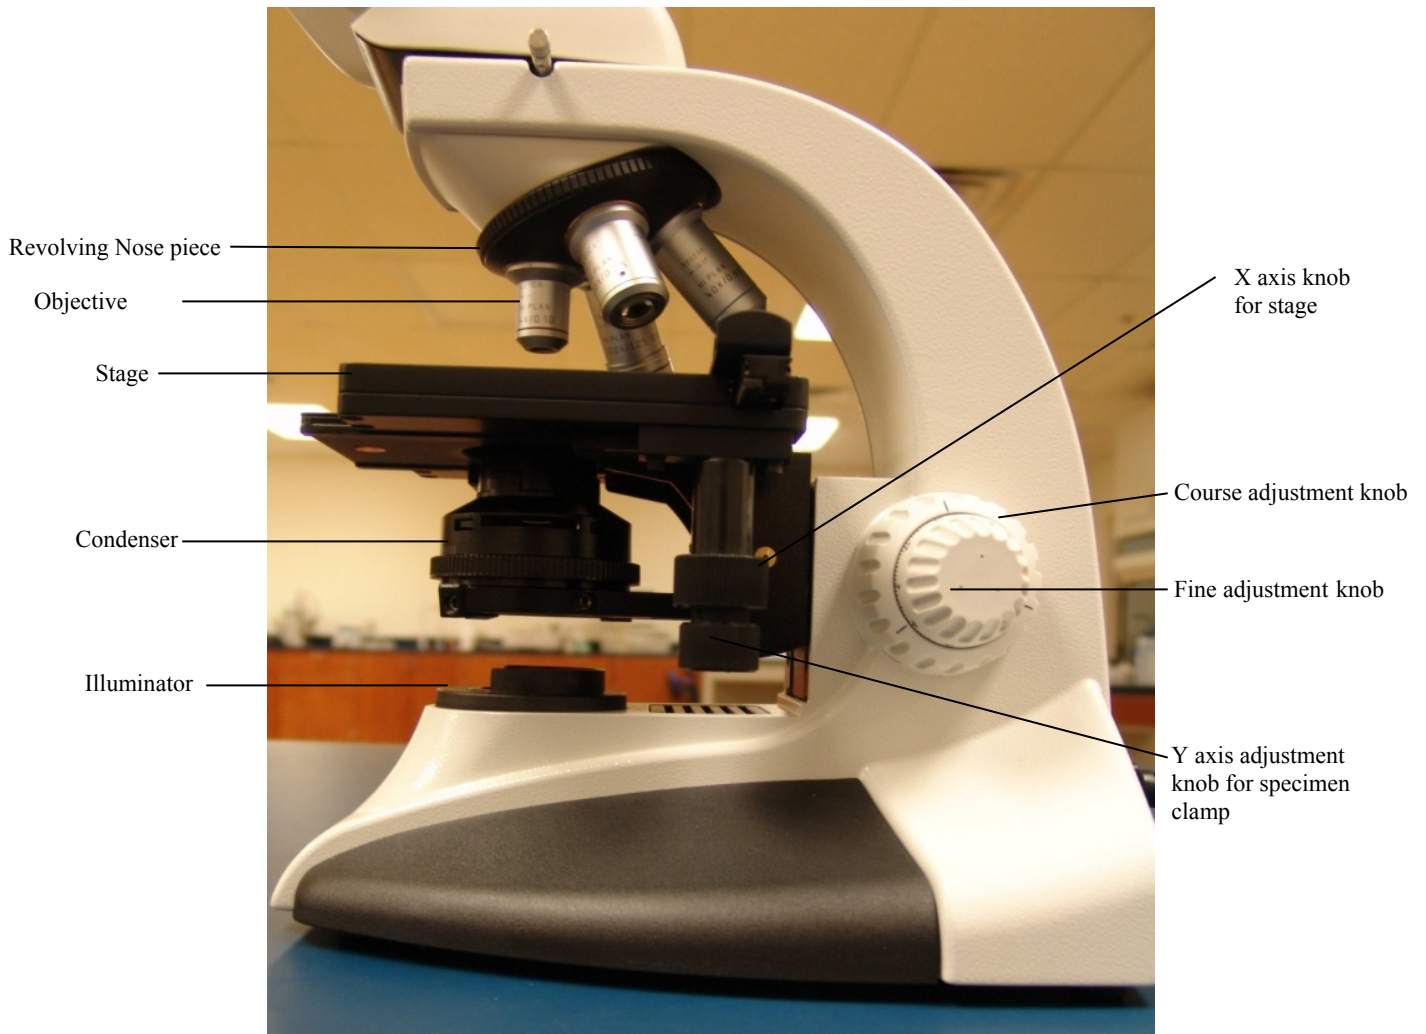

Figure 2: Leica DME microscope right side component view
- 8.1.8. Verify that the 4X objective is in the working position by rotating the revolving nose piece, until the 4X objective is in the working position. Refer to Figure 2.
- 8.1.9. Utilize the X axis stage knob by turning it clockwise to bring the stage forward to allow the specimen to be placed on the stage. Refer to Figure 2.
- 8.1.13. Utilize the X axis stage knob to align the specimen under the objective and over the light path of the condenser. Refer to Figure 2.
- 8.1.14. Utilize the Y axis adjustment knob for the specimen clamp to bring the specimen under the objective and over the light path of the condenser. Refer to Figure 2.
- 8.2.3. Looking through the right eye piece with your right eye only, close the left eye, turn the coarse adjustment knob to its position to raise the stage to bring the specimen into focus. Refer to Figure 2.
- 8.2.5. Using the fine adjustment knob to raise the stage to bring the specimen into focus. This should only require ± 1.5 rotations of focus adjustment. Refer to Figure 2.
- 9.2. Figure 2: Leica DME microscope right side component view